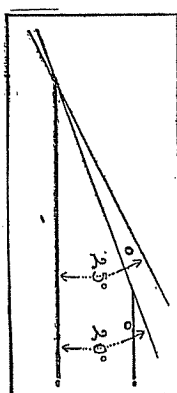

Fig. 11
2. Use grinding stone on the face of the bevel. (See Fig. 11.) The grind-